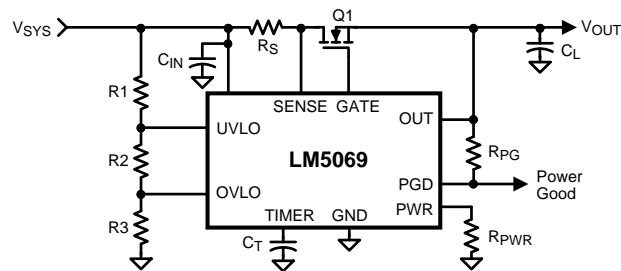
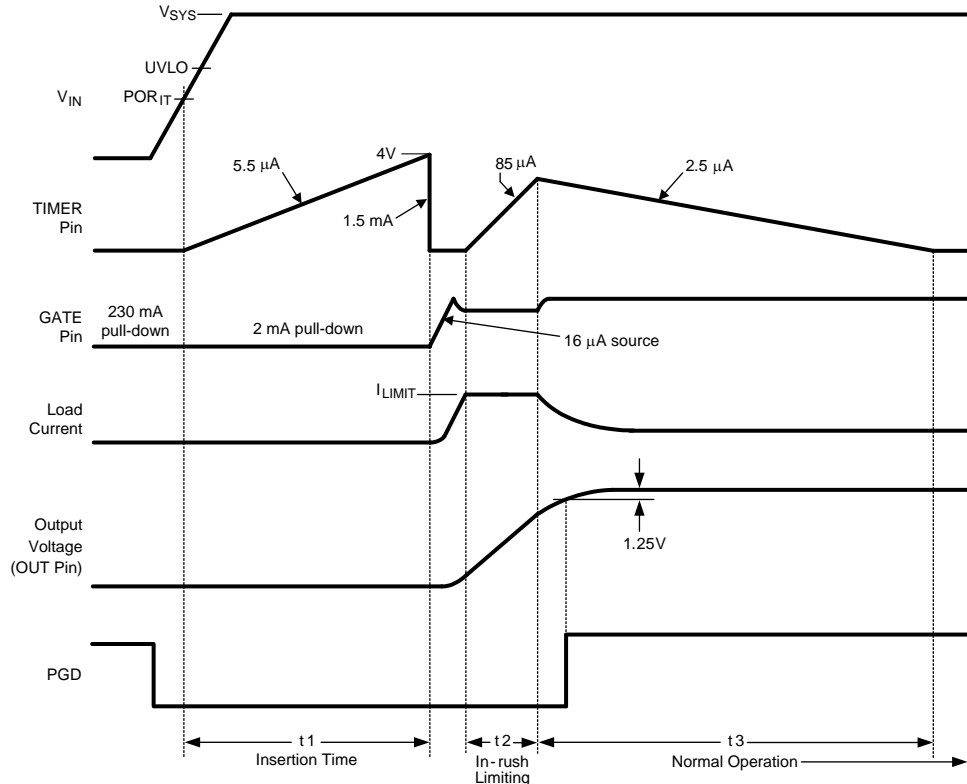

Figure 22. Basic Application Circuit
Figure 24. Power Up Sequence (Current Limit only)
The VIN operating range of the LM5069 is +9V to +80V, with a transient capability to +100V. Referring to the Block Diagram and Figure 22 and Figure 24, as the voltage at VIN initially increases, the external N-channel MOSFET (Q1) is held off by an internal 230 mA pull-down current at the GATE pin. The strong pull-down current at the GATE pin prevents an inadvertent turn-on as the MOSFET's gate-to-drain (Miller) capacitance is charged. Additionally, the TIMER pin is initially held at ground. When the VIN voltage reaches the  $POR_{IT}$  threshold (7.6V) the insertion time begins. During the insertion time, the capacitor at the TIMER pin ( $C_T$ ) is charged by a 5.5  $\mu A$  current source, and Q1 is held off by a 2 mA pull-down current at the GATE pin regardless of the VIN voltage. The insertion time ends when the TIMER pin voltage reaches 4.0V.  $C_T$  is then quickly discharged by an internal 1.5 mA pull-down current. After the insertion time, the LM5069 control circuitry is enabled when VIN reaches the  $POR_{EN}$  threshold (8.4V). The GATE pin then switches on Q1 when  $V_{SYS}$  exceeds the UVLO threshold (UVLO pin >2.5V). If  $V_{SYS}$  is above the UVLO threshold at the end of the insertion time, Q1 switches on at that time. The GATE pin charge pump sources 16  $\mu A$  to charge Q1's gate capacitance. The maximum gate-to-source voltage of Q1 is limited by an internal 12V zener diode.
As the voltage at the OUT pin increases, the LM5069 monitors the drain current and power dissipation of MOSFET Q1. In-rush current limiting and/or power limiting circuits actively control the current delivered to the load. During the in-rush limiting interval ( $t_2$  in Figure 24) an internal  $85\ \mu\text{A}$  fault timer current source charges  $C_T$ . If Q1's power dissipation and the input current reduce below their respective limiting thresholds before the TIMER pin reaches 4.0V the  $85\ \mu\text{A}$  current source is switched off, and  $C_T$  is discharged by the internal  $2.5\ \mu\text{A}$  current sink ( $t_3$  in Figure 24). The in-rush limiting interval is complete when the voltage at the OUT pin increases to within 1.25V of the input voltage ( $V_{\text{SYS}}$ ), and the PGD pin switches high.
A charge pump provides internal bias voltage above the output voltage (OUT pin) to enhance the N-Channel MOSFET's gate. The gate-to-source voltage is limited by an internal 12V zener diode. During normal operating conditions ( $t_3$  in Figure 24) the gate of Q1 is held charged by an internal  $16\ \mu\text{A}$  current source to approximately 12V above OUT. If the maximum  $V_{\text{GS}}$  rating of Q1 is less than 12V, a lower voltage external zener diode must be added between the GATE and OUT pins. The external zener diode must have a forward current rating of at least 250 mA.
During the insertion time ( $t_1$  in Figure 24) the GATE pin is held low by a 2 mA pull-down current. This maintains Q1 in the off-state until the end of  $t_1$ , regardless of the voltage at VIN or UVLO.
Following the insertion time, during  $t_2$  in Figure 24, the gate voltage of Q1 is modulated to keep the current or power dissipation level from exceeding the programmed levels. While in the current or power limiting mode the TIMER pin capacitor is charging. If the current and power limiting cease before the TIMER pin reaches 4V the TIMER pin capacitor then discharges, and the circuit enters normal operation.
The series pass MOSFET (Q1) is enabled when the input supply voltage ( $V_{\text{SYS}}$ ) is within the operating range defined by the programmable under-voltage lockout (UVLO) and over-voltage lock-out (OVLO) levels. Typically the UVLO level at  $V_{\text{SYS}}$  is set with a resistor divider (R1-R3) as shown in Figure 22. When  $V_{\text{SYS}}$  is below the UVLO level, the internal 21  $\mu\text{A}$  current source at UVLO is enabled, the current source at OVLO is off, and Q1 is held off by the 2 mA pull-down current at the GATE pin. As  $V_{\text{SYS}}$  is increased, raising the voltage at UVLO above 2.5V, the 21  $\mu\text{A}$  current source at UVLO is switched off, increasing the voltage at UVLO, providing hysteresis for this threshold. With the UVLO pin above 2.5V, Q1 is switched on by the 16  $\mu\text{A}$  current source at the GATE pin if the insertion time delay has expired (Figure 24). See the Applications Section for a procedure to calculate the values of the threshold setting resistors (R1-R3). The minimum possible UVLO level at  $V_{\text{SYS}}$  can be set by connecting the UVLO pin to VIN. In this case Q1 is enabled when the VIN voltage reaches the  $\text{POR}_{\text{EN}}$  threshold.
(REFER TO Figure 22)
**A) Insertion Delay** - Upon applying the system voltage ( $V_{SYS}$ ) to the circuit, the external MOSFET (Q1) is held off during the insertion time ( $t_1$  in Figure 24) to allow ringing and transients at  $V_{SYS}$  to settle. Since each backplane's response to a circuit card plug-in is unique, the worst case settling time must be determined for each application. The insertion time starts when  $V_{IN}$  reaches the  $POR_{IT}$  threshold, at which time the internal  $5.5 \mu\text{A}$  current source charges  $C_T$  from 0V to 4.0V. The required capacitor value is calculated from: